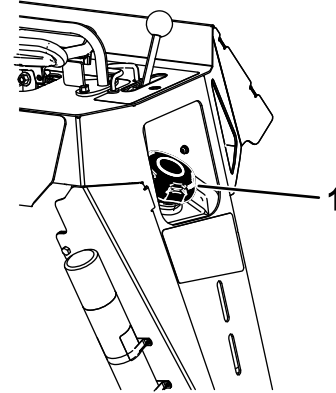

Figure 18
3. Clean around the fuel-tank cap and remove it (Figure 18).